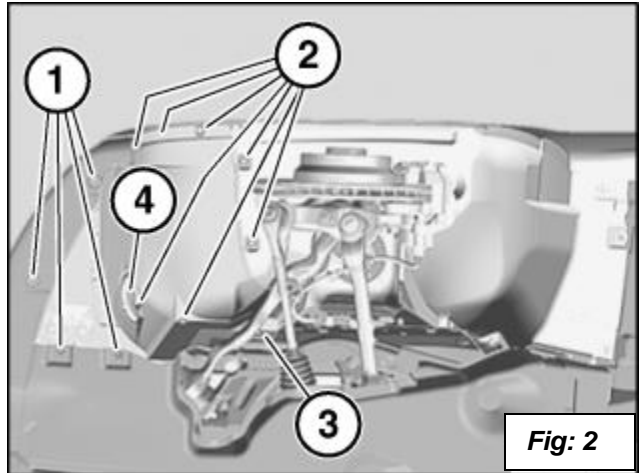

Fig: 2
4. Remove the front inner fender on the right side by removing the screws at location (1) and (2). Unscrew the nut at location (3). Remove the Air Guide (4). Disconnect the connector from the tire pressure box. **See figure 2**.